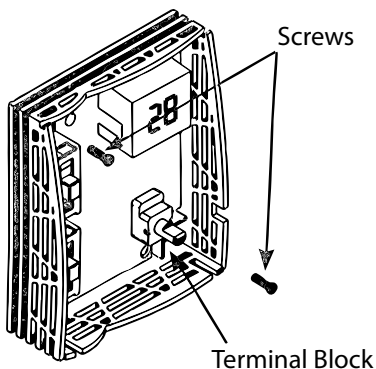

Figure 7
4. Drill holes in the wall through the 2 mounting holes in the back of the humidistat cabinet as shown in Figure 7 and insert anchors into the holes.